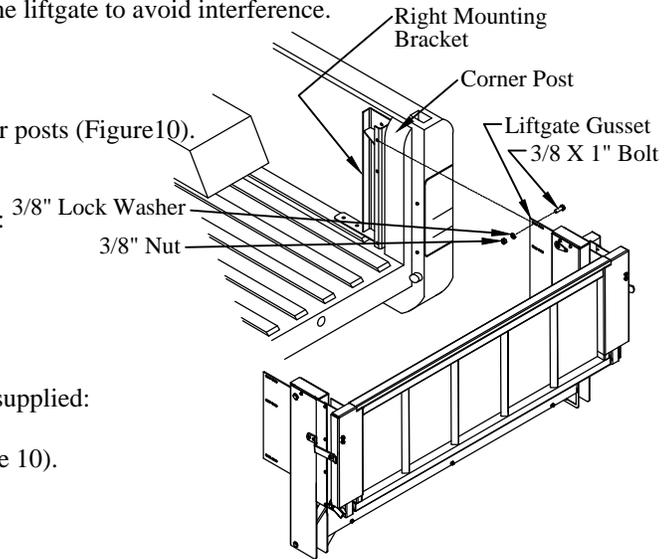

Figure 10: Mounting bracket and liftgate.
2. **Position** the mounting brackets into the truck bed in front of the corner posts (Figure 10).
- (3) 3/8"x1" hex head bolts on the bracket-side (Figure 10).
- (3) 3/8" lock washers, and (3) 3/8" nuts on the gusset-side (Figure 10).